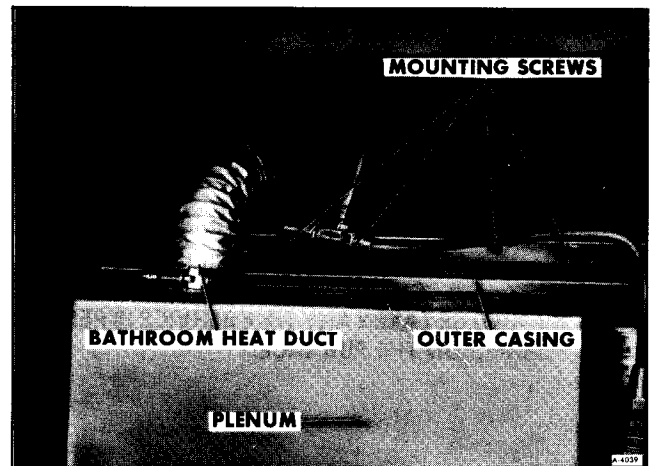

Figure 10—Location of Upper Furnace Mounting Screws
8. Disconnect bathroom heat duct located on top of furnace plenum (See figure 10).
9. Remove four upper furnace mounting screws (See figure 10).
4. Install four upper furnace mounting screws (See figure 10). Connect bathroom heat duct to furnace plenum (See figure 10).